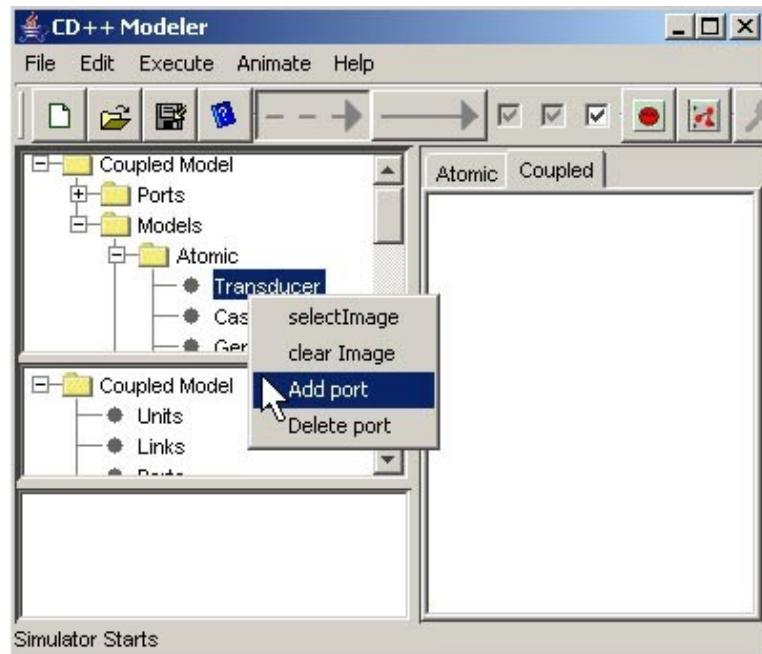

Figure 167: Adding a port to imported model.
7. Right click on "Transducer" and select *Add port* from the popup menu to add a port to "Transducer". (See Figure 167)